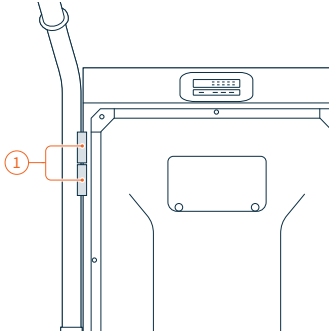

Fig. 11 Sockets on the betterGen (highlighted)
The betterGen is equipped with two different sockets to connect appliances to (Fig. 11/①). Both are designed for appliances with a power consumption of up to 16 amp (230 V, 50 Hz). The lower socket is designed for high capacitive and inductive loads that demand a high inrush current. The upper socket is designed for low capacitive and inductive loads.
1. Connect the appliance with the betterGen (Fig. 11, ①).